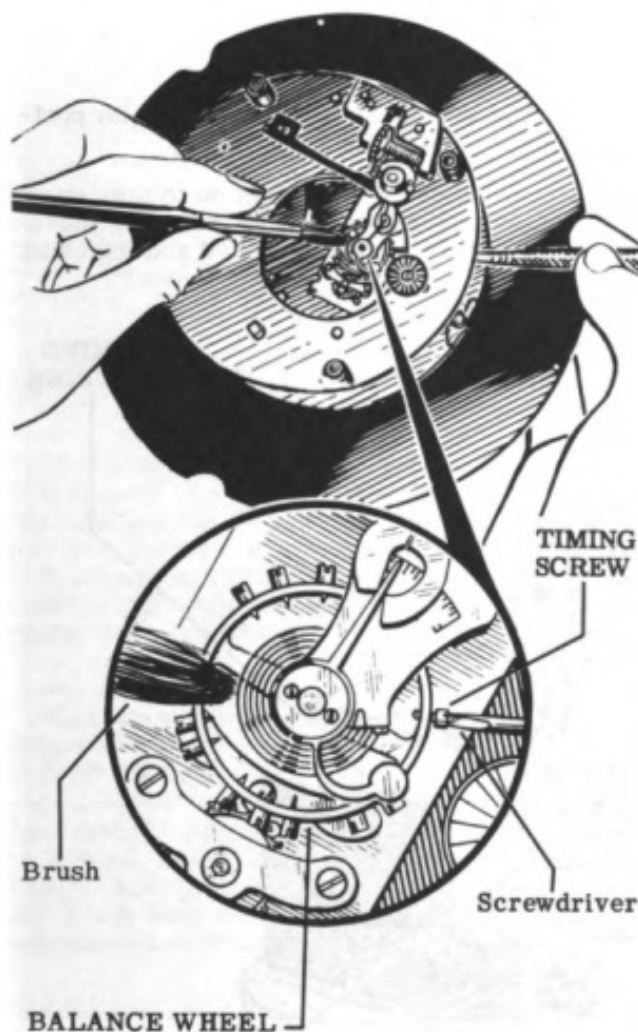

Figure 87
5. Adjust the two timing screws to correct the error as shown in Fig. 87. These two screws are smaller in head size than the other balance screws and are located close